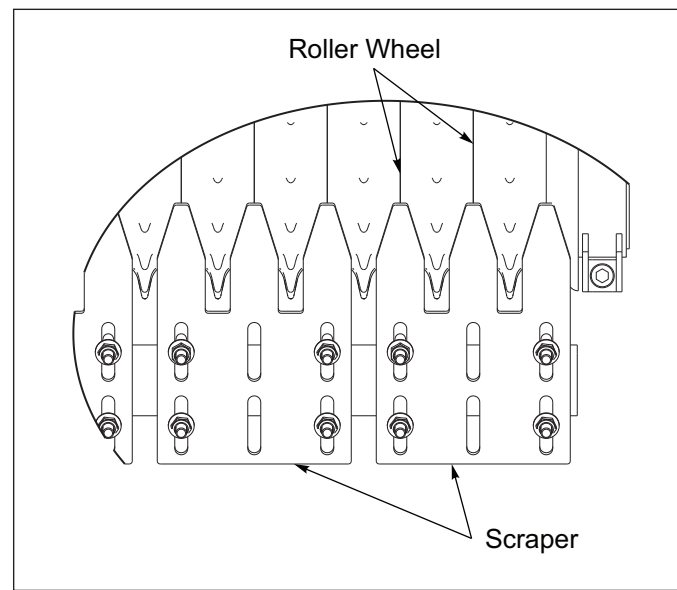

Figure 5-15:
3. Verify that the Scrapers are centered as best as possible between the Roller Wheels and adjust if necessary. **See Figure 5-15.**